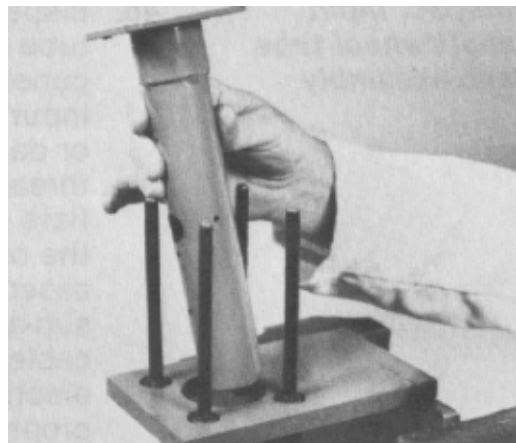

Figure 77
47. Remove the washer and upper cover & jacket (Fig. 77).